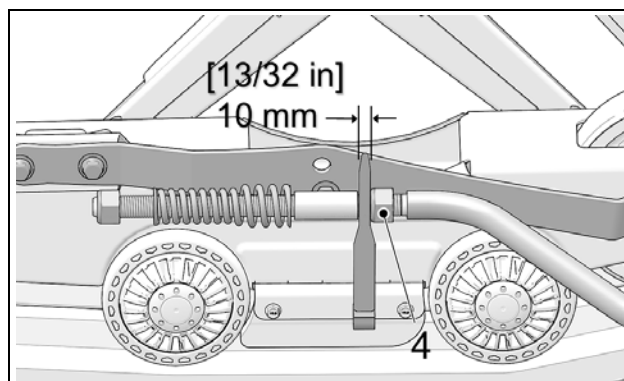

Figure 11
- Set the nut (4) to obtain a distance of 10 mm between nut and stabilizing arm guide as shown on Figure 11.